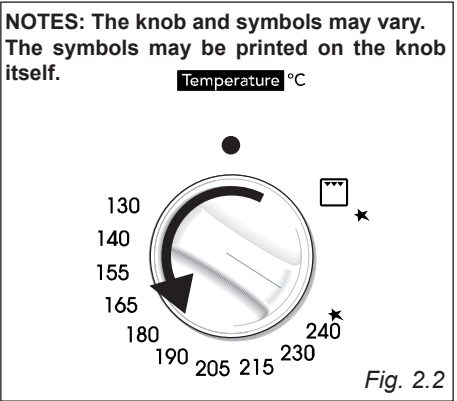

Fig. 2.2
The numbers printed on the control panel or on the knob (fig. 2.2) indicate the increasing oven temperature value (see table below).
- 2 – Lightly press and turn the thermostat knob anti-clockwise to the maximum position ★ (fig. 2.2). Press the knob firmly until the burner lights.